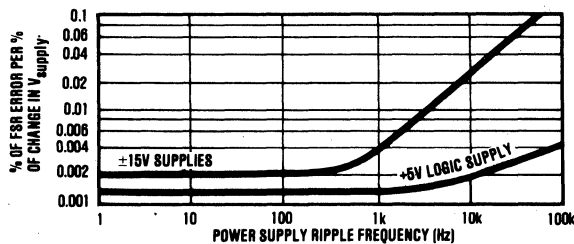

FIGURE 8. Typical Power Supply Sensitivity vs Power Supply Ripple.
7.2 Power supply sensitivity. Power supply sensitivity is specified in Table I. Power supply sensitivity versus ripple frequency is shown in Figure 8.